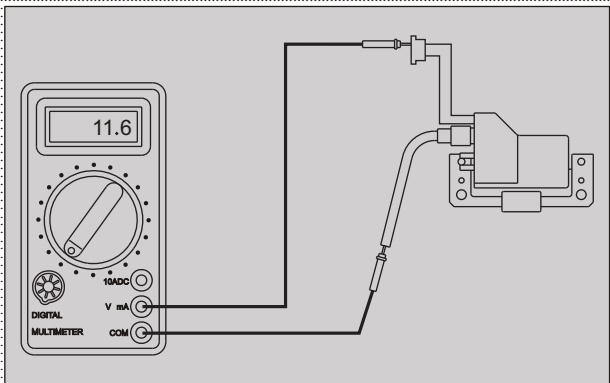

Fig. 5.11
- Connect '+ve' lead of multimeter to the HT cord and '-ve' lead to the blue wire (Bl). (Fig. 5.11)